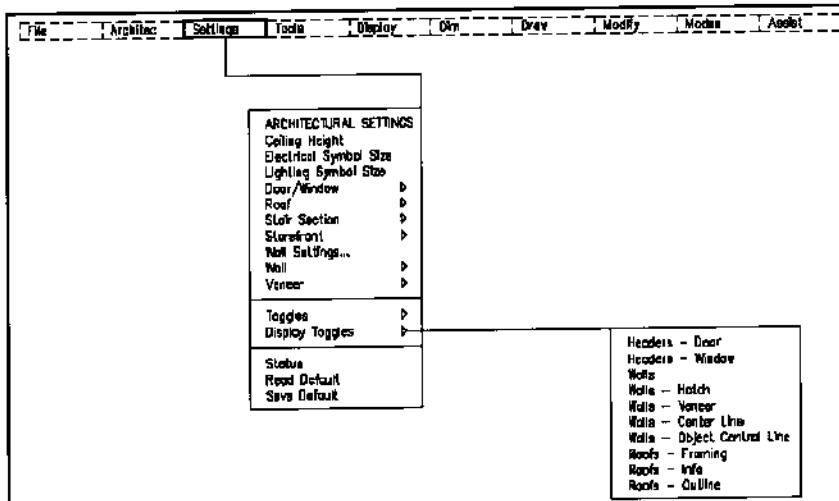

Figure 15
4. The Display Toggles submenu, shown in Figure 15, controls the RFINFO layer for the Roof Info tag, RFPERIM for roof perimeter and framing.